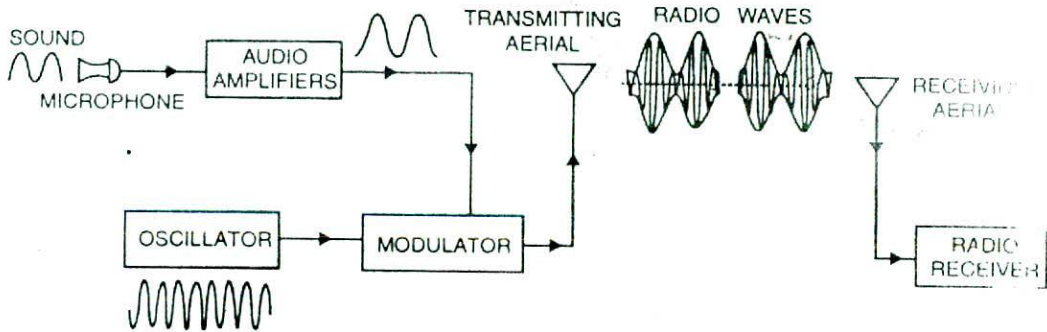

Fig. 18.1
Radio communication means the radiation of radio waves by the transmitting station, the propagation of these waves through space and their reception by the radio receiver. Fig. 18.1 shows the general principles of radio broadcasting, transmission and reception. As a matter of convenience, the entire arrangement can be divided into three parts *viz.* *transmitter*, *transmission of radio waves* and *radio receiver*.
1. Transmitter. Transmitter is an extremely important equipment and is housed in the broadcasting station. Its purpose is to produce radio waves for transmission into space. The important components of a transmitter are microphone, audio amplifiers, oscillator and modulator (See Fig. 18.1).
(iii) *Oscillator*. The function of oscillator is to produce a high frequency signal, called a *carrier wave*. Usually, a crystal oscillator is used for the purpose. The power level of the carrier wave is raised to a sufficient level by radio frequency amplifier stages (not shown in Fig. 18.1). Most of the broadcasting stations have carrier wave power of several kilowatts. Such high power is necessary for transmitting the signal to the required distances.